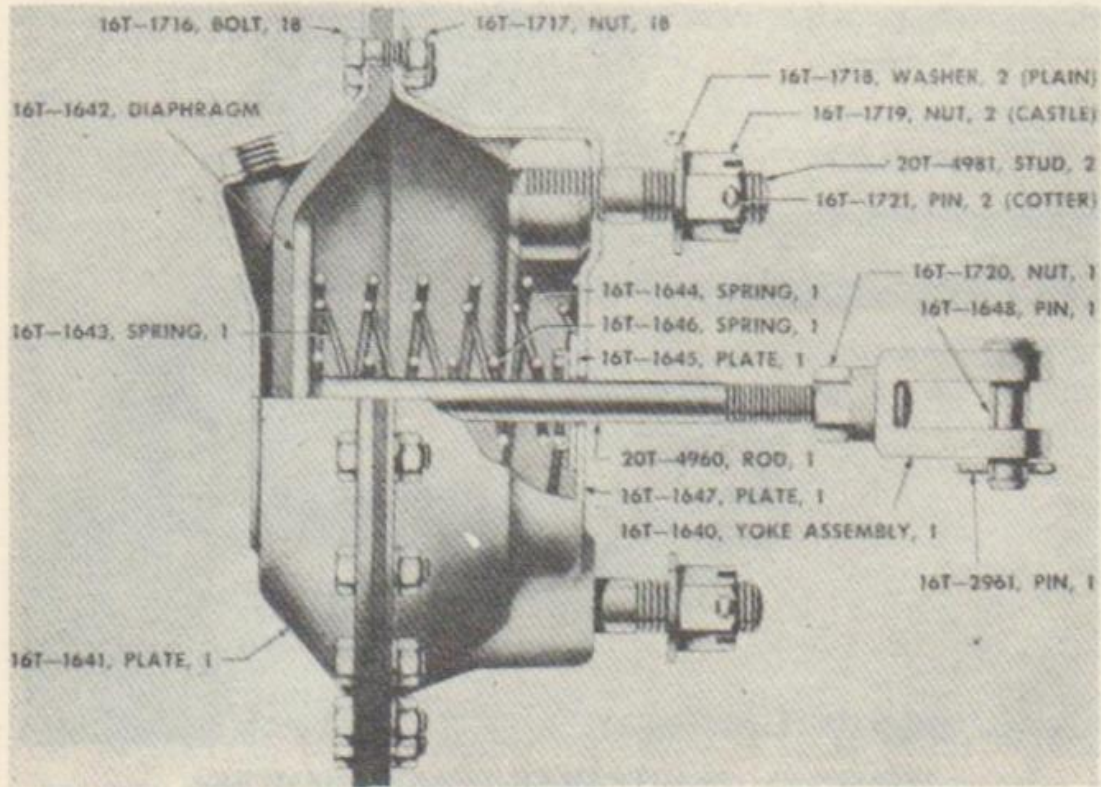

FIGURE 24. DOLLY BRAKE CHAMBER—SECTIONAL VIEW
e. **Reassembly** (figs. 24 and 25). Position push rod, springs and dirt steel washer in place in the nonpressure plate, and install yoke and yoke lock nut. Position diaphragm and pressure plate, being sure the air inlet opening in the pressure plate is in proper relation to the mounting bolt or mounting bracket as marked before disassembly. Install nuts and bolts holding diaphragm between the pressure plate and the nonpressure plate. It is important that all bolts be tightened evenly but not excessively. Tighten the nuts only sufficiently to insure an air tight seal between the pressure plate and the diaphragm and not sufficiently to distort the diaphragm.